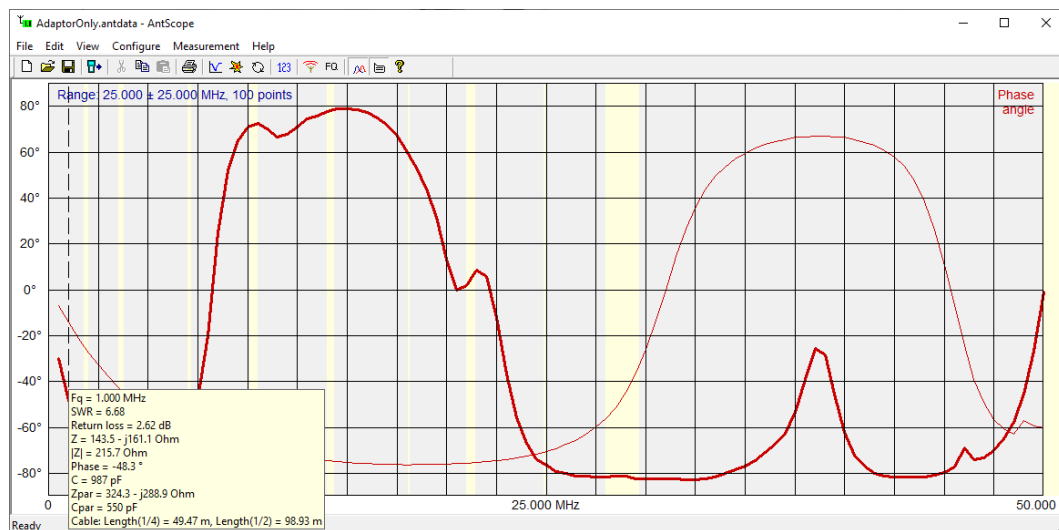

Figure 9-47: AntScope measurement - AdaptorInstalled (with Cpar measurement)
5. Move the cursor over  $-45^\circ$  or as close as possible as shown in Figure 9-47. The Cpar (Capacitance parallel) will be the bushing capacitance stated on the nameplate ( $\pm 5\%$ ) or the last measured nominal value. In this example, the value is 550 pF as shown in Figure 9-47.